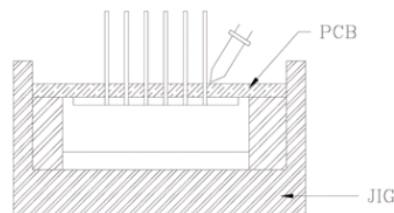

Fig.2
- 2) When soldering wire to the lead, work with a jig (See Fig.2) to avoid stressing the package.